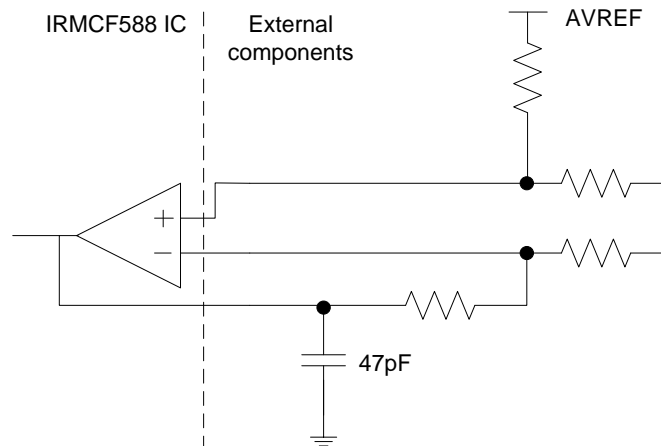

Figure 8. Op amp output capacitor
(1) Data guaranteed by design.
(2) To guarantee stability of the operational amplifier, it is recommended to load the output pin by a capacitor of 47pF, see Figure 8. Here typical OP amp connection is shown but all op amp outputs should be loaded with this capacitor value.